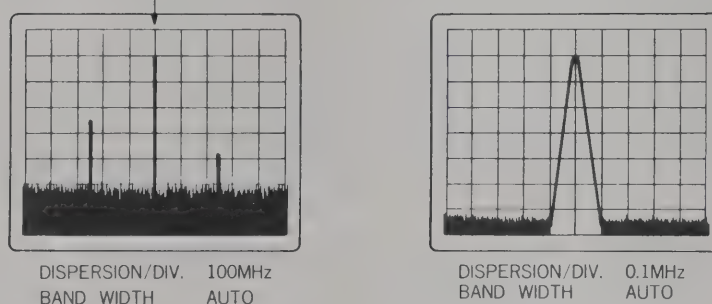

Figure 3.7 Expansion of an Arbitrary Spectrum
- The TUNING control is utilized to position the signal to be observed at the center of the CRT DISPLAY (see Figure 3.7).